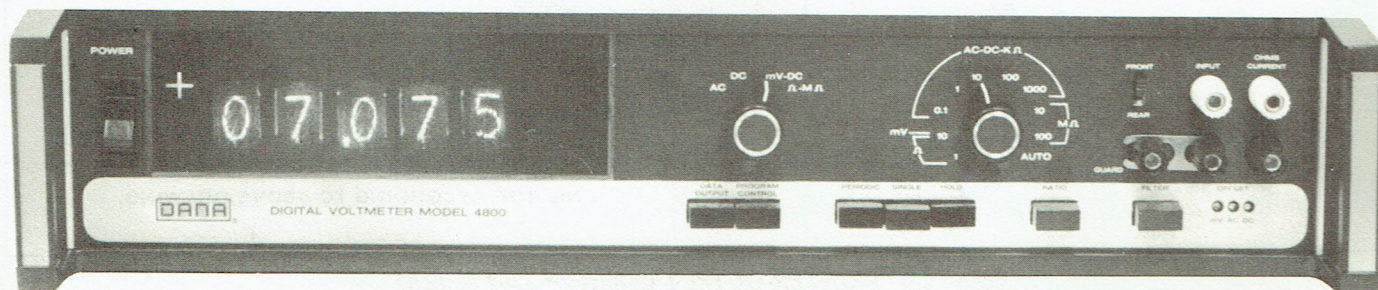

Figure 2.8 - Front Panel
2.35 All operating controls are located on the front panel of the instrument. They are shown in figure 2.8 and their operation described in table 2.2.